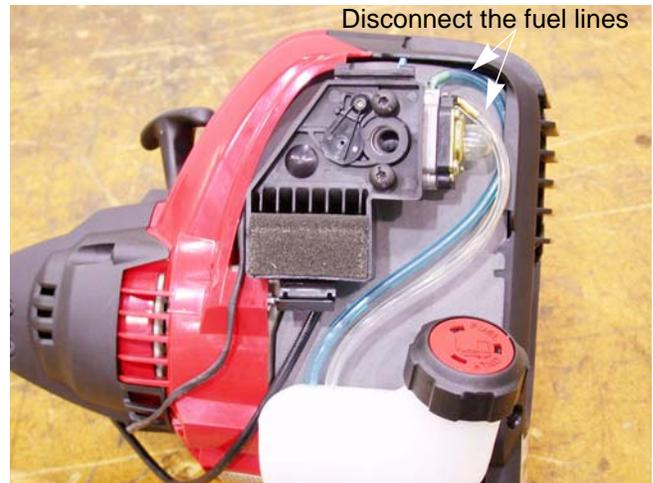

Figure 5.5
2. Disconnect the fuel lines from the carburetor. See Figure 5.5.